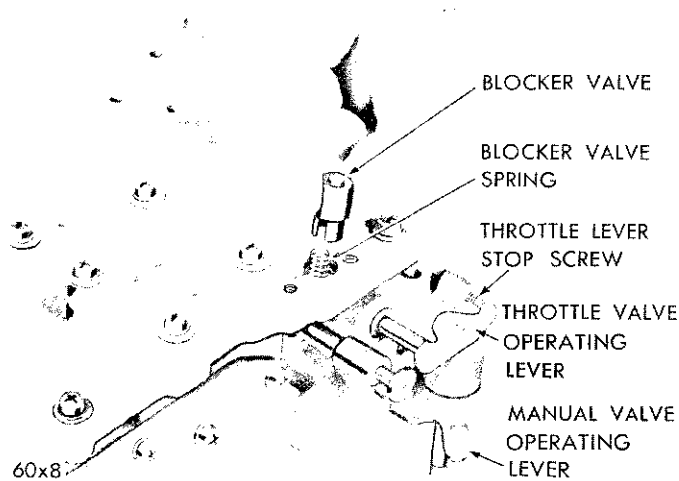
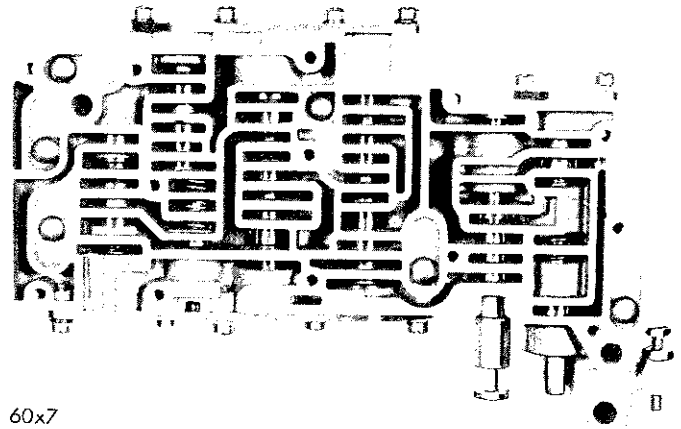
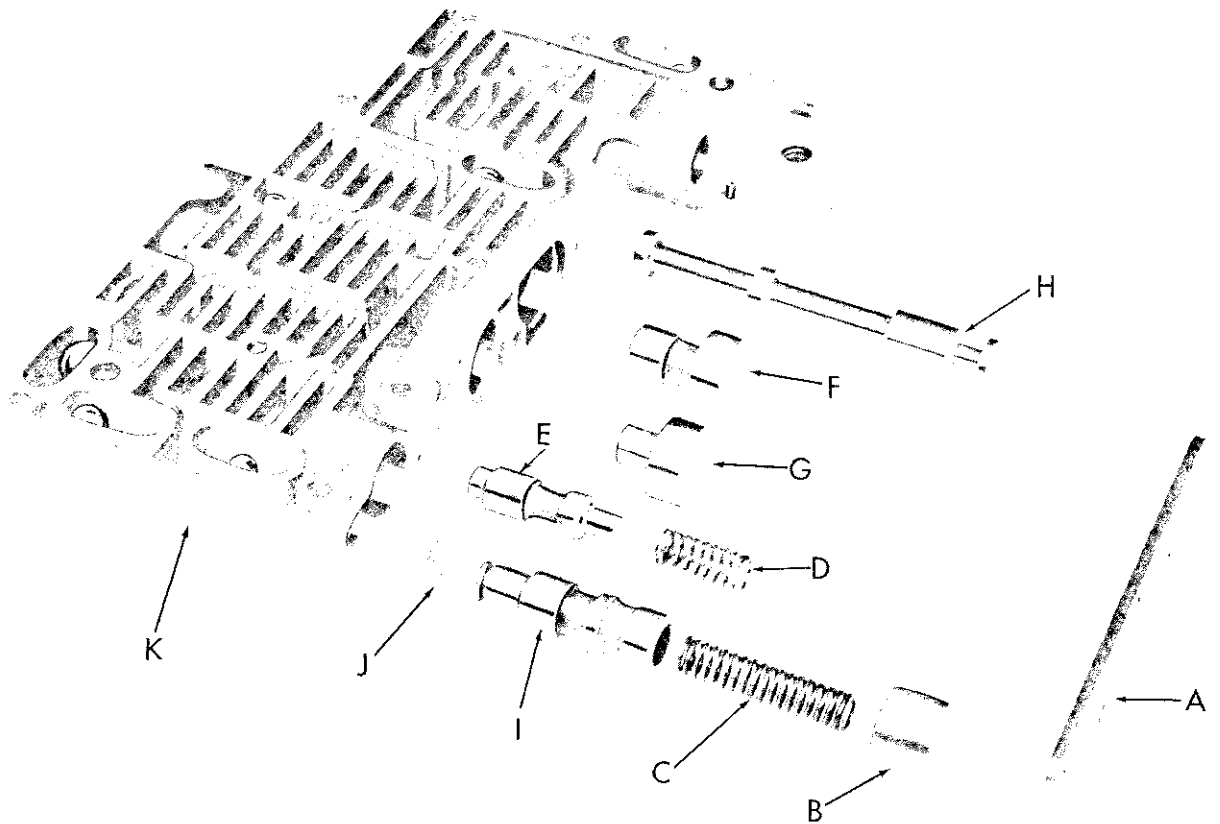
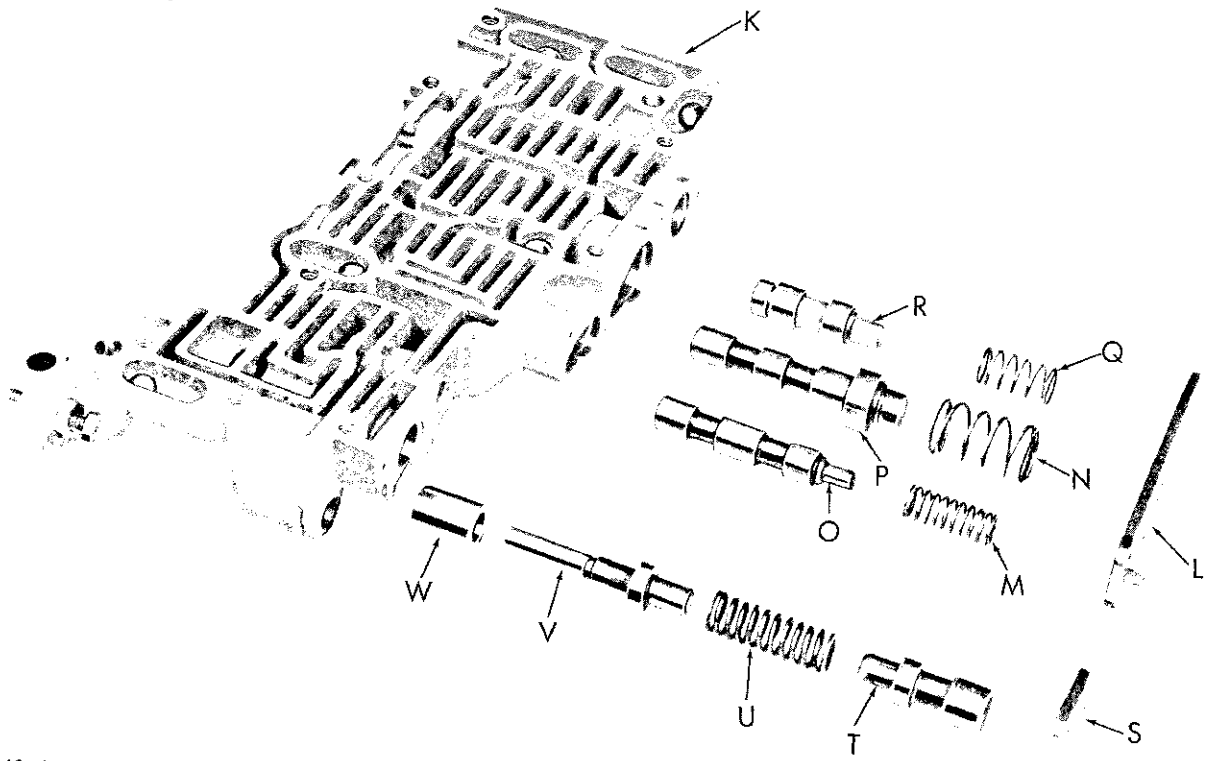

Fig. 94—Removal and Installation of Blocker Valve
Fig. 95—Location of Check Valve Balls in Valve Body
Fig. 96—Shuttle and Relay Valve Side of Valve Body
Fig. 97—Shift and Throttle Valve Side of Valve Body
(2) Remove the blocker valve retainer plate, blocker valve and spring, Figure 94.
(3) Remove the cross recess screws that hold the transfer plate, valve body and valve body cover together. All screws are of equal length. When the last screw is removed, the valve body should be held and lowered cautiously to prevent loss of any of the six ball check valves. Observe the location of these balls and then remove the balls. All check valve balls are of the same size (Fig. 95).
(4) Remove the shuttle valve and governor plug cover plate (A) (larger of the two covers). (Refer to Fig. 96.)
(5) Remove the shuttle valve plug (B) and shuttle
(6) Remove the 1-2 relay valve spring (D) and 1-2 relay valve (E).
(7) Remove the 1-2 (F) and 2-3 (G) shift valve governor plugs.
(8) Remove the shift valve cover plate (L). **Hold the cover plate while releasing the spring tension to prevent possible loss of springs while the cover is removed.** (Refer to Fig. 97.)
(9) Remove the 1-2 (M) and 2-3 (N) shift valve springs and valves (O-P).
(10) Remove the throttle compensating spring (Q) and valve (R).
(11) Remove the throttle valve cover plate (S), throttle valve (T), throttle valve spring (U), kick-down valve (V) and detent (W).
(12) Remove the throttle control lever shaft snap ring and while holding the manual valve operating lever detent ball against the spring to prevent loss of the ball and spring, slide out throttle and manual valve levers. Remove the detent ball and spring (Fig. 94).
(13) Carefully slide the manual valve out of the valve body.
(14) Remove blocked valve plate, spring and valve (Fig. 94).
(2) Slide the throttle lever shaft up through the valve body with the smallest cam contacting the end of throttle lever stop screw, as shown in Figure 94.
(3) While continuing to hold the detent ball against spring, slide the manual operating lever down over the throttle valve shaft and at the same time index the arm on the lever into the end groove of the manual valve. The detent notches in the lever should slide down against the detent ball.
(4) Install the snap ring over the throttle lever shaft. Rotate the manual lever to see that detent and valve operate freely.
(5) (Refer to Fig. 97.) Slide the kickdown detent (W) (counterbored end first) over the machined end of the kickdown valve (V), and then slide the assembly (W-V), detent end first, into the valve body. Install the throttle valve spring (U) into the valve body followed by the throttle valve (T), spring pilot end first. Install the throttle valve cover plate (S) and tighten the screw 25 to 30 inch-pounds torque.
(6) Install the 1-2 and 2-3 shift valves (O-P) with the spring pilot ends pointed outward followed by springs (M-N).
(7) Install the throttle compensating valve (R) with spring pilot end outward followed by the throttle compensating pressure spring (Q).
(8) Install the shift valve cover plate (L) and tighten the screws 25 to 30 inch-pounds torque.
(9) Turn the valve body over and refer to Figure 96. Install the shuttle valve (I), small end first into valve body and install the snap ring (J). The snap ring should be replaced if it does not fit securely.
(10) Install shuttle valve spring (C) followed by the shuttle valve plug (B).
(11) Insert the 1-2 relay valve (E), spring pilot end outward, followed by relay valve spring (D) into valve body.
(12) Install the 1-2 and 2-3 shift valve governor plugs (F-G).
(13) Place the shuttle valve and governor plug plate cover (A) on valve body and tighten screws 25 to 30 inch-pounds torque.
(14) Place the six ball checks in their respective positions in the valve body, as shown in Figure 95.
(15) Set the transfer plate cover (thin steel plate) over the stand pilots, Tool C-3528, as shown in Figure
(16) With all ball check valves in place, position the valve body up against the transfer plate and cover, aligning the screw holes and install the attaching screws and washers. Tighten all screws evenly 25 to 30 inch-pounds torque.
(17) Insert the reverse blocker valve spring into top of transfer plate, as shown in Figure 94, followed by the blocker valve. The slot in the lower portion of the blocker valve must index with the bar of transfer plate cover so that the valve can be depressed flush with the top of transfer plate.
(18) Position the blocker valve cover plate over the blocker valve so that all openings in the transfer plate are completely covered and tighten screws 25 to 30 inch-pounds torque.